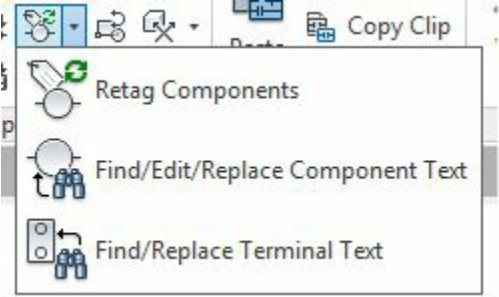

Figure-35. Retag Components drop-down
- Click on the **Retag Components** tool from the **Retag Components** drop-down in the **Edit Components** panel in the **Ribbon**; refer to Figure-35. The **Retag Components** dialog box will be displayed; refer to Figure-36.